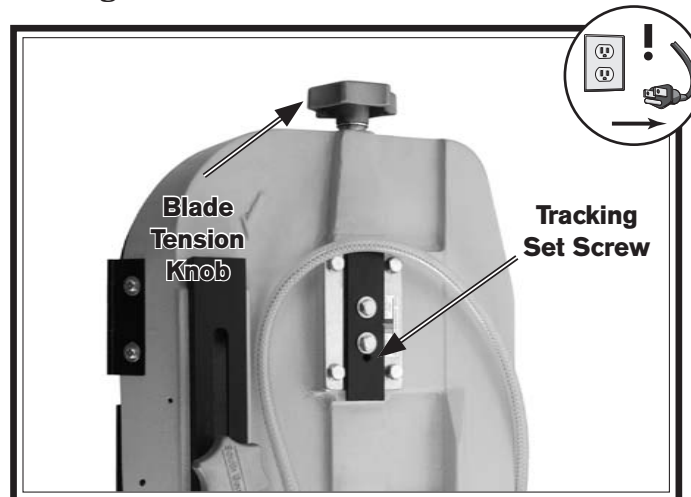

Figure 39. Blade tracking & tension controls.
4. Use the blade tension knob (shown in **Figure 39**) to release the blade tension.
5. Adjust the tracking set screw shown in **Figure 39**, then tighten the lower hex bolt loosened in **Step 3**.